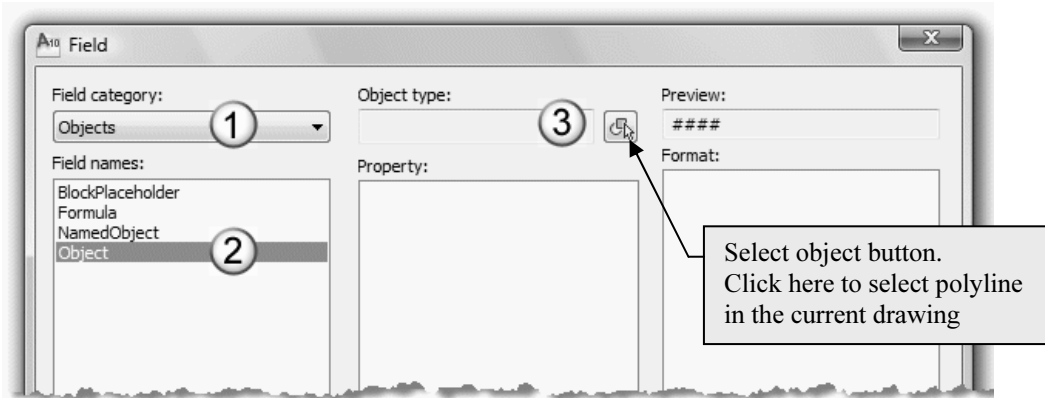

Figure 4-4.5 Field dialog box
You are now in the *Field* dialog box (Figure 4-4.5) where you specify what type of information you want this specific *Field* to display. You can have things like the date, file name and much more, and they automatically update if they change.
13. Under *Field category*, select **Objects** (Figure 4-4.5).
14. Under *Field names*, click **Object** (Figure 4-4.5).
15. Under *Object type*, click the **Select object** button (Figure 4-4.5).